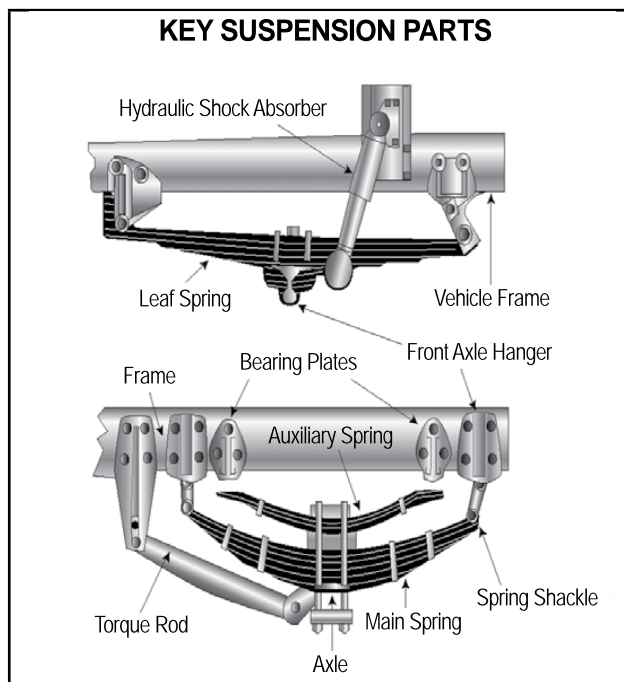

Figure 2.2
- Spring hangers that allow movement of an axle from its proper position. See Figure 2.2.